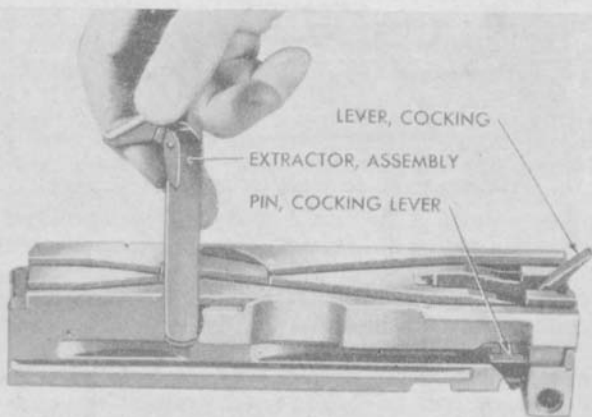

FIGURE 14.—Removing the extractor.
62. DETAILED DISASSEMBLING OF BOLT GROUP.—*a.* The driving spring rod assembly is normally disassembled only when it is necessary to replace the driving spring. To disassemble it, drive out the collar stop pin from the driving spring rod and remove the collar and the driving spring. Next, disassemble the bolt assembly. Remove the extractor by rotating it upward and pulling it out from the bolt. (See fig. 14.) Do not disassemble the ejector from the extractor unless absolutely necessary. To disassemble the ejector, drive out the ejector pin and remove the ejector and ejector spring. Remove the bolt switch from the bolt.